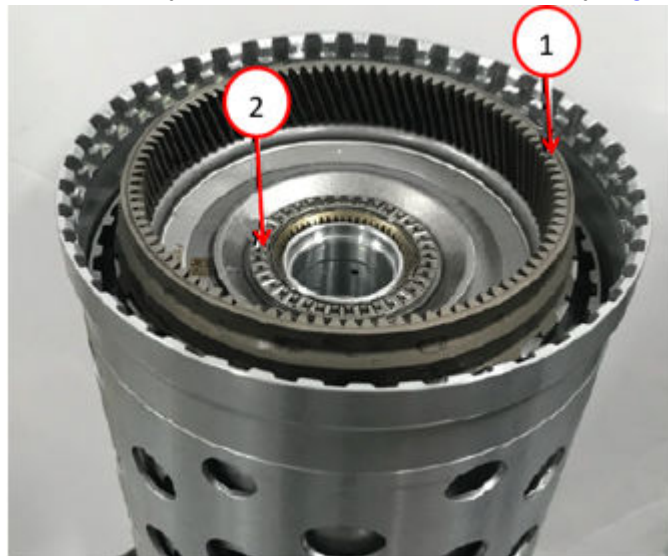

Fig. 24
34. Remove the input shaft with P2 planetary carrier from the drum assembly Fig. 24.